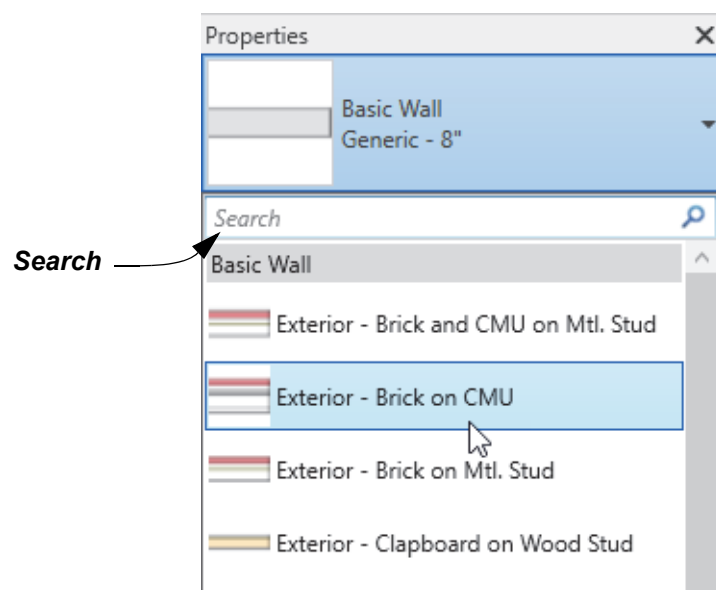

Figure 1–4
3. In the Options Bar (shown in Figure 1–5), specify the following information about the wall before you start drawing: